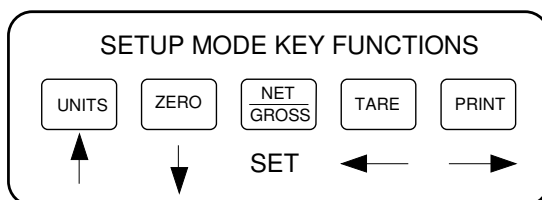

Figure 6-1: Setup Menu Key Assignments
6. Use the four directional keys (shown in Figure 6-1 below) to adjust the displayed value to the actual test weight value. Increase the flashing digit by pressing the UNITS key. Decrease the flashing digit by pressing the ZERO key. Pressing the PRINT key or the TARE key will change the position of the flashing digit.
2. The display will momentarily show **"CAL 0"**, followed by a flashing zero. Use the four directional keys (shown in Figure 6-1) to adjust the displayed value to the zero calibration value.
2. The display will momentarily show "**CAL 1**", followed by a flashing zero. Use the four directional keys (shown in Figure 6-1) to adjust the displayed value to the span calibration value.